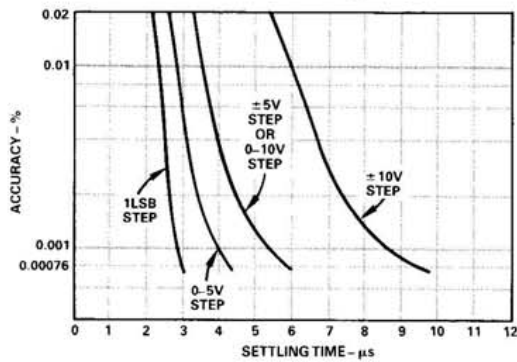

Figure 5. Voltage Settling Time vs Accuracy
4See Figure 5 for settling time curves.
**Settling Time:** Settling time is the total time for the output to settle within an error band around its final value after a change in the input. Settling times for the DAC1146 are specified to  $\pm 0.00076\%$  of full-scale for any step change (see Figure 5).